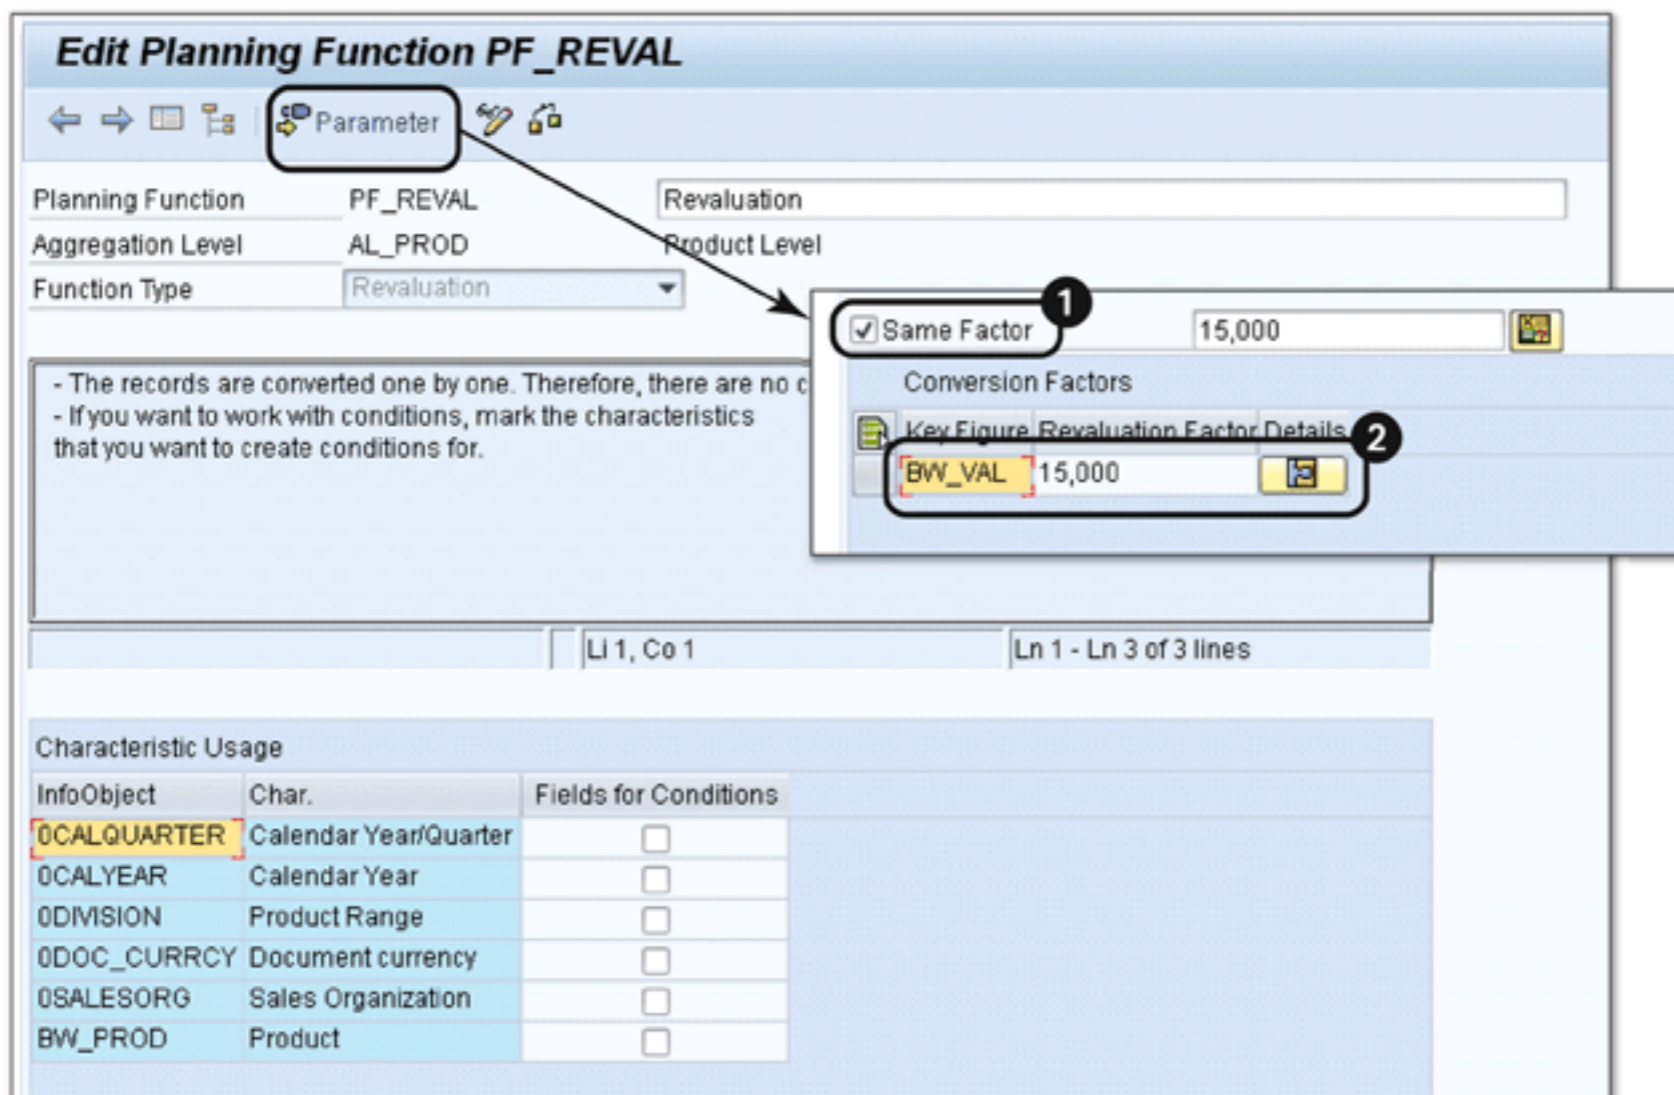

Figure 12.47 Define Revaluation Planning Function
You can define a REVALUATION planning function for all of the key figures in the selected set of data (❶ of Figure 12.47). Also, you can define each key figure to be revaluated separately with a different revaluation factor.
Define the revaluation factor as shown in ❷ of Figure 12.47. The revaluation logic with which the new value is calculated can be represented as follows: